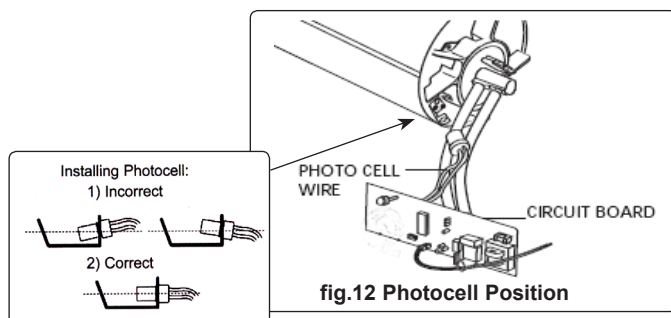

fig.12 Photocell Position
- 6.7. **Flame-out device.** The AB heaters are fitted with a flame-out device (a photocell, see fig.12), which cuts the fuel supply should the flame be inadvertently extinguished, or if the unit overheats. If this happens, switch off the heater and unplug from the mains supply. Check the heater to determine the fault. In particular check that the air intake is not obstructed and that the internal fan is rotating freely. Wait a few minutes and restart the unit. If the problem persists contact your local Sealey Service Agent.